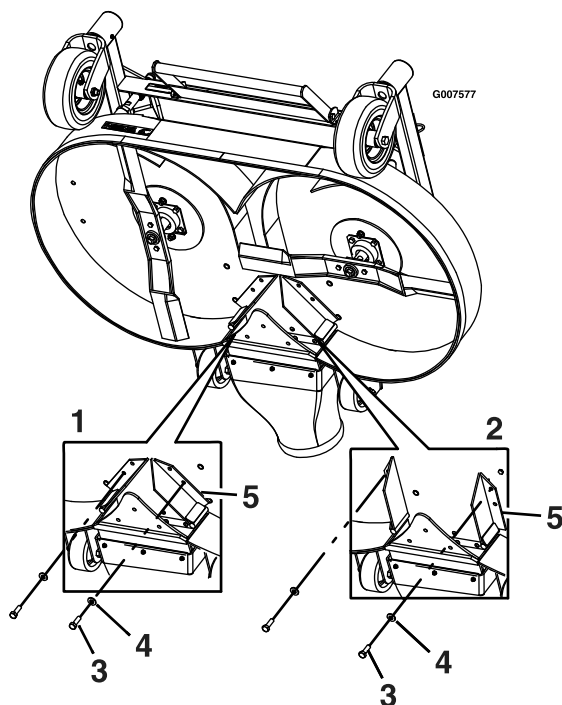

Figure 23
6. Remove the bolt and washer at the front of each FRS baffle (Figure 23).